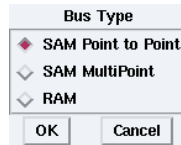

Figure 1.17: Type of a communication medium
- click **Modify type** → dialog window: **SAM Point to Point** (*cf.* figure 1.17),